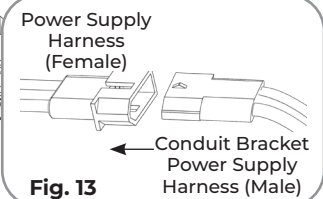

Fig. 13
- Secure the bracket to the backplate using two (2) #8-32 x 1/4" machine screws.
- Plug the bracket's wiring harness into the pre-wired harness of the power supply. (Fig. 13)